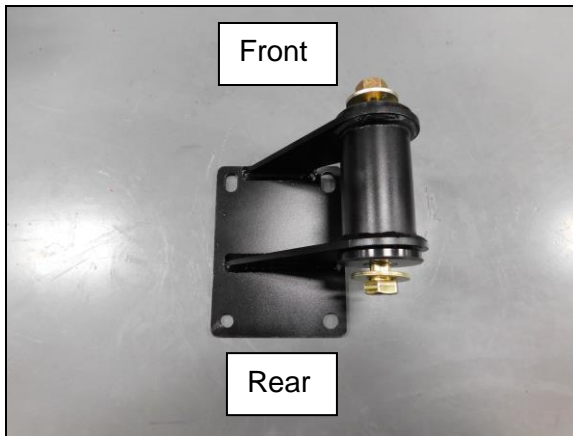

Figure 1
- With the engine out of the vehicle, install the driver's side (Left) engine mount assembly to the engine block using (x4) M10 x 25mm flange bolts provided. Install the engine mount assembly with the engine mount bushing toward the front of the engine using the OEM engine mount locations. **Note:** Always use all 4 mounting bolts (**Figures 1 & 2**).
- Install the 1/2" engine mount bolts into the engine mount assemblies, as shown in **Figures 1 & 3**. Be sure to leave a space between the washer and the polyurethane bushing. This space will be required for the frame stand to pass between the washer and the bushing when the engine is being installed